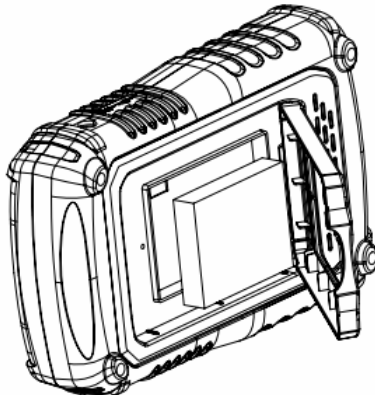

Figure 3
3. Set the battery snugly into the battery compartment (Figure 3).